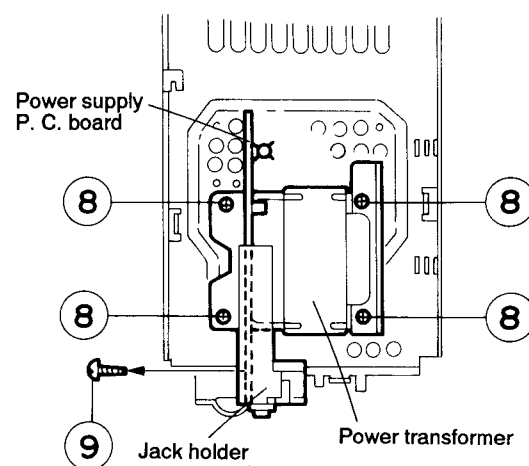

Fig. 5-13
■ Removing the power transformer and power supply P. C. board (See Fig. 5-13)
6. Remove the four screws ⑧ retaining the power transformer and power supply P. C. board and the one screw ⑨ retaining the jack holder.